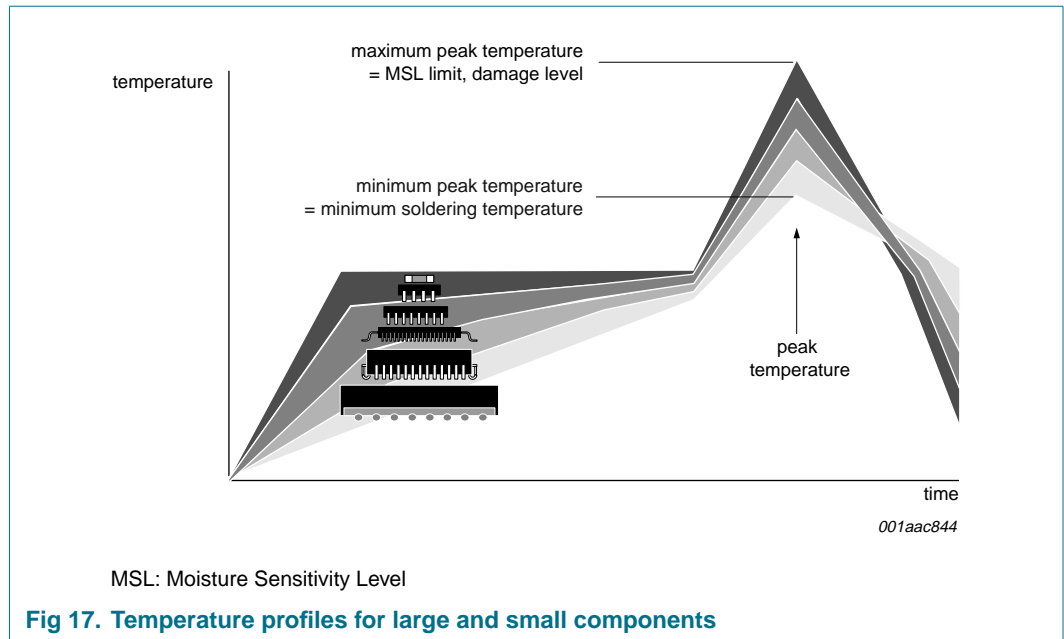

Fig 17. Temperature profiles for large and small components
- Lead-free versus SnPb soldering; note that a lead-free reflow process usually leads to higher minimum peak temperatures (see Figure 17) than a PbSn process, thus reducing the process window
Studies have shown that small packages reach higher temperatures during reflow soldering, see Figure 17.